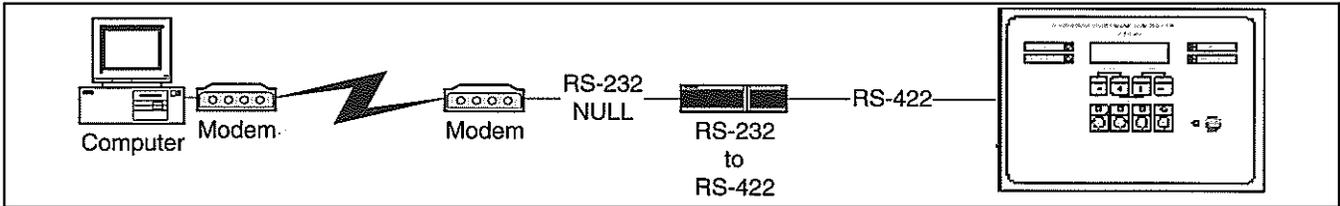

Figure 42 Model Connection
2. Modem. From computer to local modem to remote modem to controller. The modem connection bypass mode is shown in Figure 42.